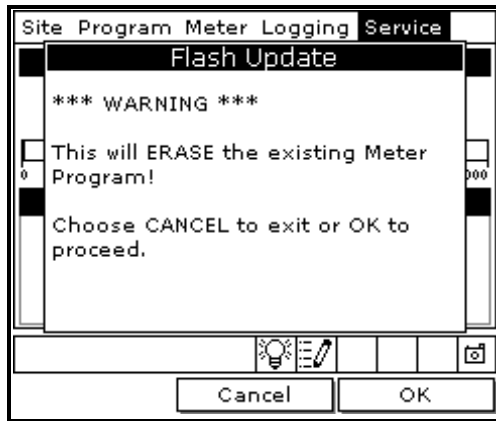

Figure 68: Flash Update Window
3. Use the arrow keys to scroll to **Flash Update** and press [ENTER]. The screen appears similar to Figure 68.